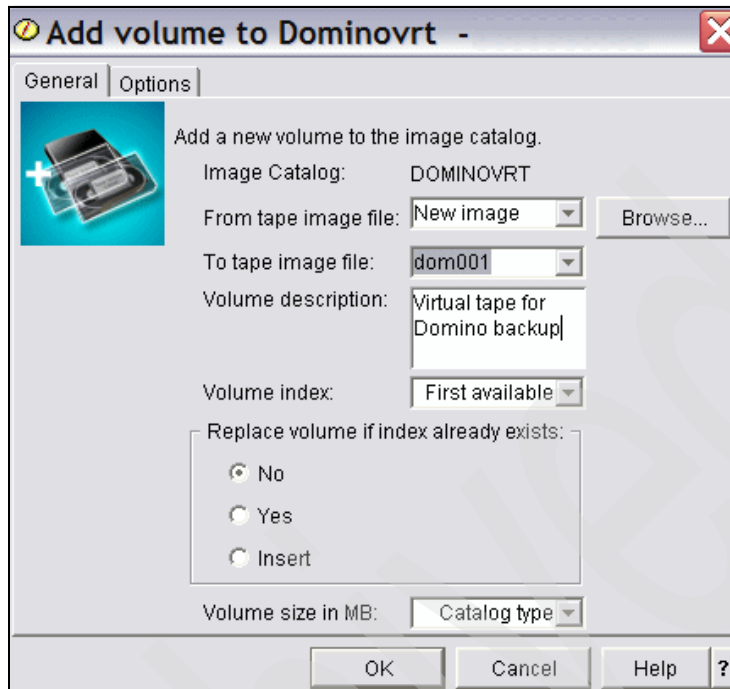
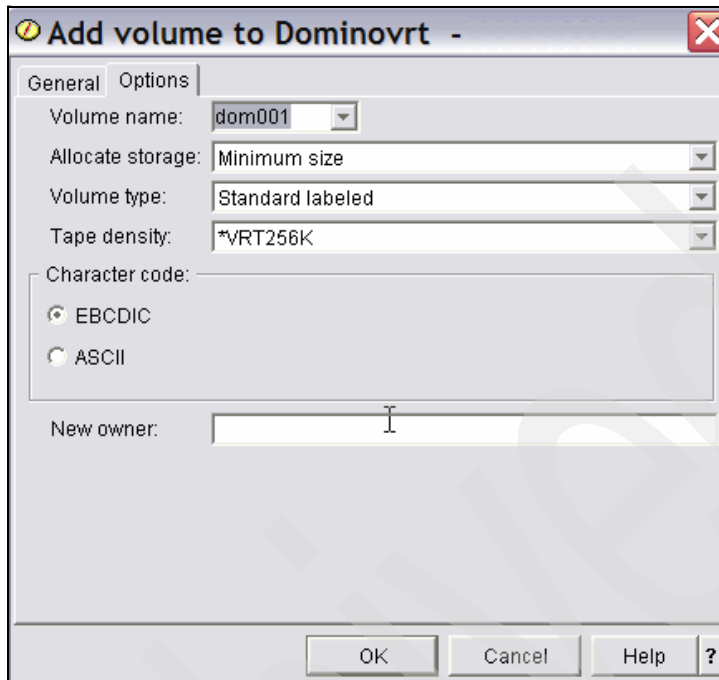

Figure 5-4 Domino with BRMS virtual tape, add volumes to image catalog - General tab
Figure 5-5 Domino with BRMS virtual tape, add volumes to image catalog - Options tab
- The window shown in Figure 5-4 on page 193 displays. In the General tab, input a value for the field To tape image file with the volume name (in this scenario, it is dom001).
6. Click the **Options** tab, shown in Figure 5-4.
The window shown in Figure 5-5 on page 194 displays. To avoid confusion, use the same name for the volume (the To tape image file) that you input under the General tab shown in Figure 5-4 (in this scenario, it is dom001).